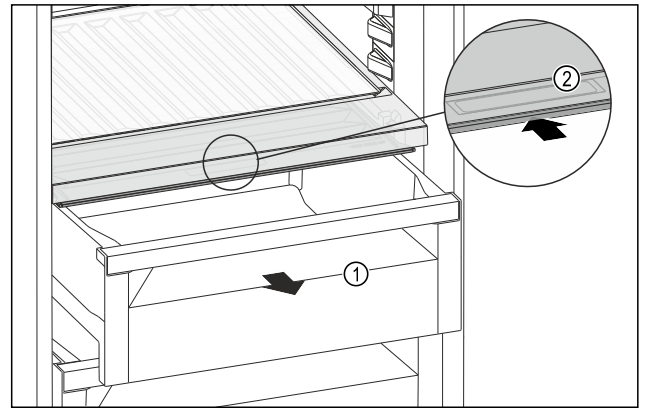

Fig. 184
- Pull out the drawer Fig. 184 (1).
- Grasp the recessed grip Fig. 184 (2) on the compartment lid and push the compartment lid backwards at the same time.